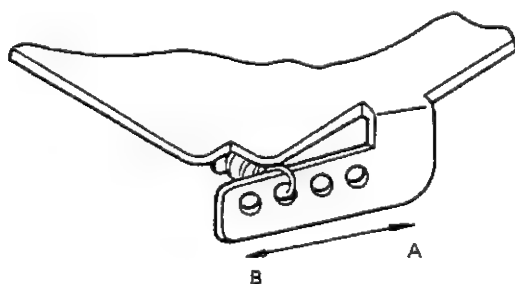

Figure 16
1. When the tape tension is less than 50 to 57 g.cm, rehook the spring in the direction of the arrow A in figure 16 and recheck.
2. Where the tape tension is greater than 50 to 57 g.cm, rehook the spring in the direction shown by the arrow B in figure 16 and recheck.